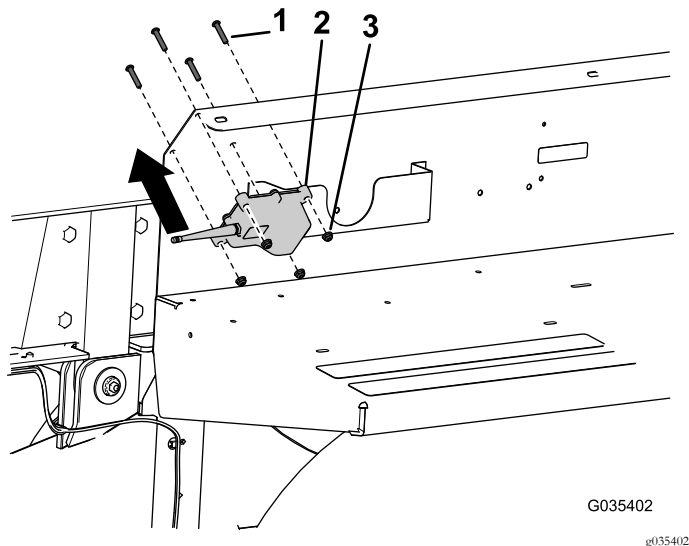

Figure 5
2. Install the RF2CAN controller onto the fender guard with 4 cap screws (1/4 x 1-1/4 inches) and 4 nuts (1/4 inch) as shown in Figure 5.
Note: Make sure that you install the screws in the appropriate direction; refer to Figure 5.